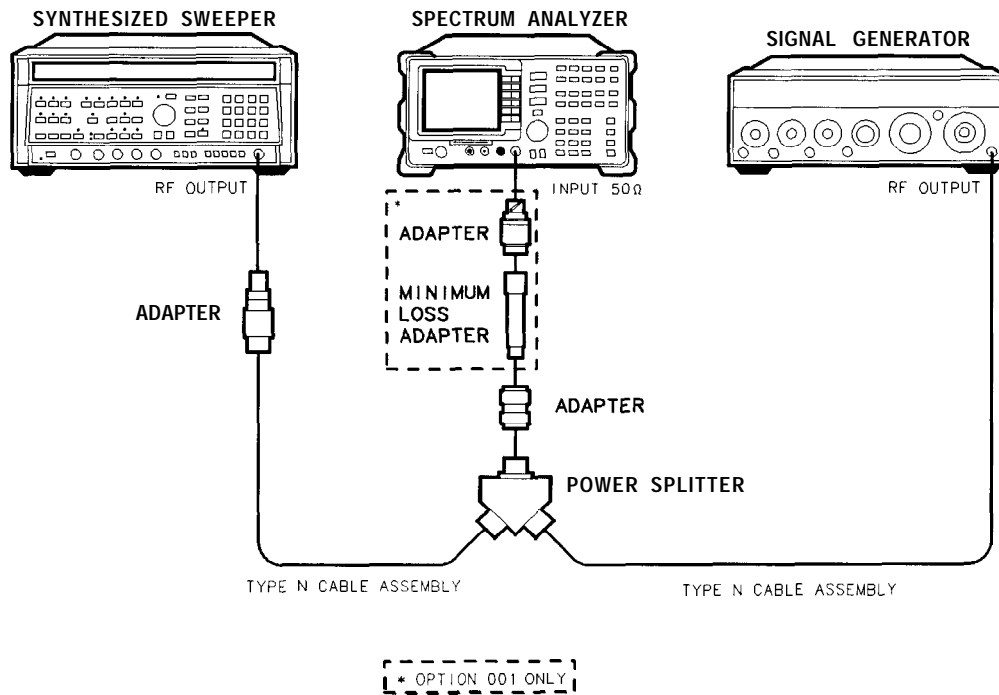

Figure 1-5. 1800 MHz Frequency Span Readout Accuracy Test Setup
1. Connect the equipment as shown in Figure 1-5. Note that the Power Splitter is used as a combiner.